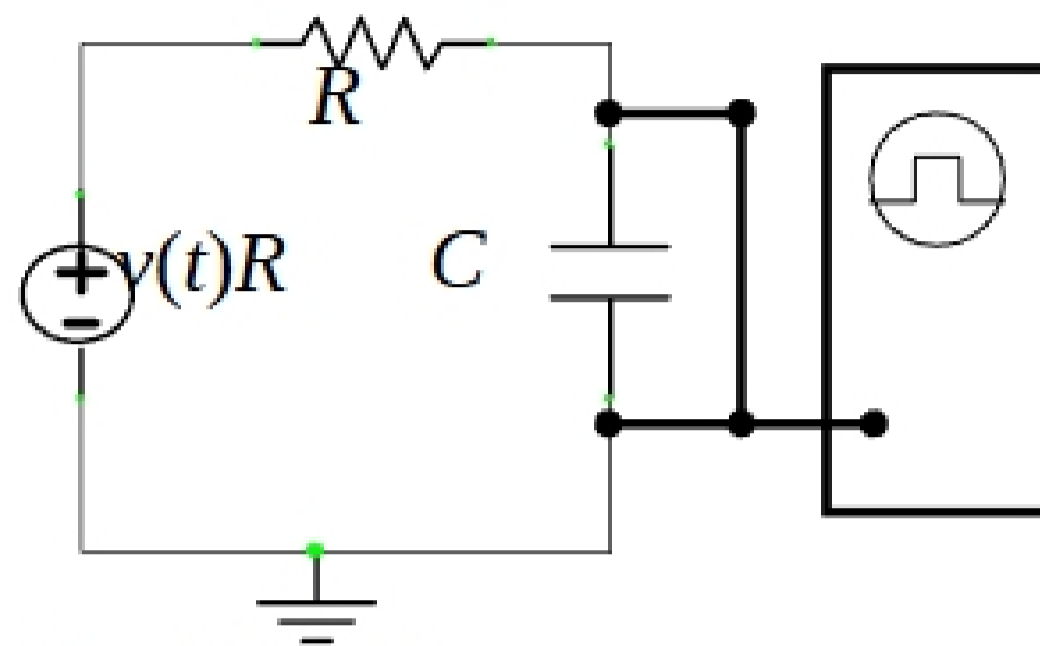

Figure 1. Circuit A
1. To use the **step response model** in the capacitor measurement, build the Circuit A shown in Fig. 1. Use a 0 to 5V square wave input (function generator), and use the oscilloscope to measure the voltage across the capacitor. Enter on your data sheet the critical time and amplitude points for 3 different values of R (measure the resistance values with the DMM). Use the waveform save feature on the scope to record one of the capacitor voltage waveforms that you did your measurement on for presentation in the **results section and data sheet**. Adjust the square wave so the voltage swings from 0 to 10V and repeat your measurements (time and voltage amplitude points) for the 3 different R values. Compute the C values for each of the time-amplitude points recorded for presentation in the **results section**. Also compute the mean and standard deviation of all your capacitor estimates. From these values compute the 95% confidence interval for your capacitor estimate (use the t -statistic) and present your final estimate (mean of all your measurement with plus/minus 95% confidence intervals). In the **procedure section**, address/include the following: